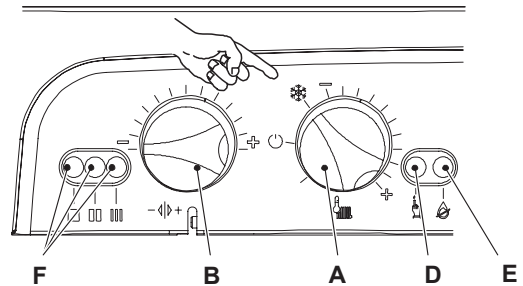

Figure 8.23
- Turn the boiler OFF and ON positioning the function selector knob A as indicated in Figure 8.23